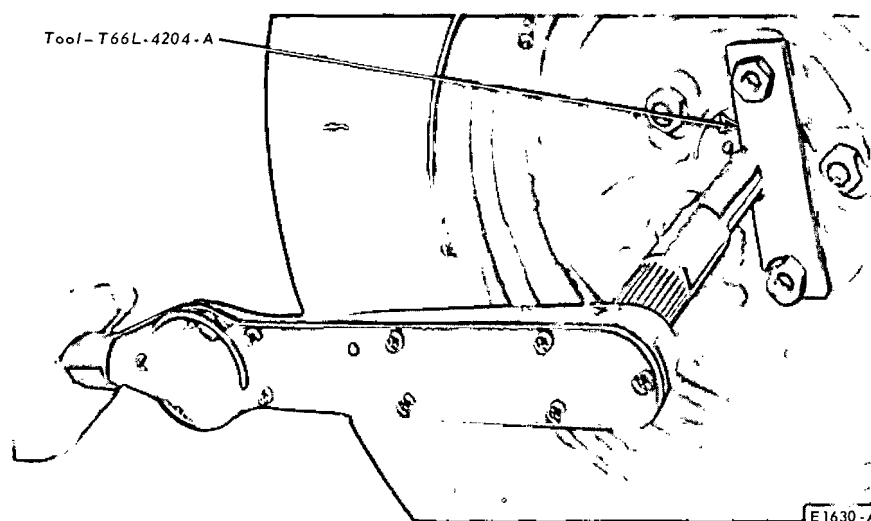
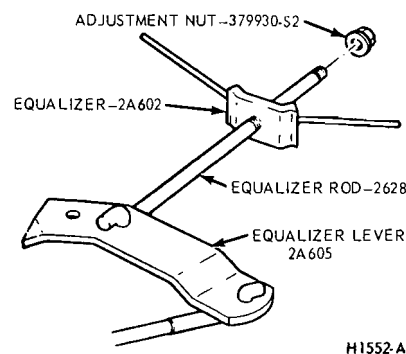
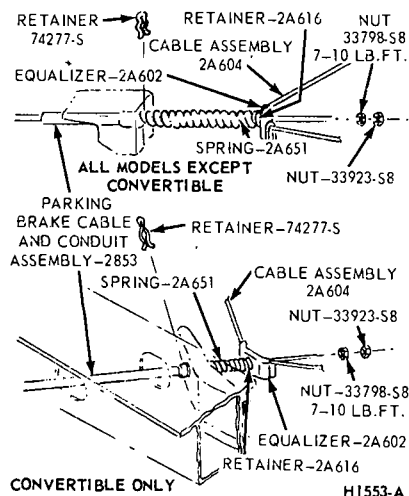

FIG. 3—Checking Parking Brake Break-Away Torque
FIG. 4—Parking Brake Linkage Adjustment — Mustang and Cougar
FIG. 5—Parking Brake Linkage Adjustment — Comet, Fairlane and Falcon
3. Raise the vehicle. Remove the wheel cover. Install Tool T66L-4204-L on the rear wheel (Fig. 3).
4. Turn the locking adjustment nut forward against the cable guide on the equalizer (Fig. 4) until there is 100 ft-lbs break-away torque at the rear wheel when turning the rear wheels in the direction of forward rotation with a torque wrench (Fig. 3). The torque measurement must be made relative to the centerline of the wheel.
2. Raise the vehicle. Loosen the equalizer lock nut (Fig. 5) and turn the nut forward against the cable guide on the equalizer until there is 22 to 27 pounds tension on the left rear cable or there is 100 ft-lbs break-away torque when turning the rear wheels in the direction of forward rotation with a torque wrench and Tool T66L-4204-L as shown in Fig. 3. The torque measurement must be made relative to the centerline of the wheel. Tighten the lock nut.